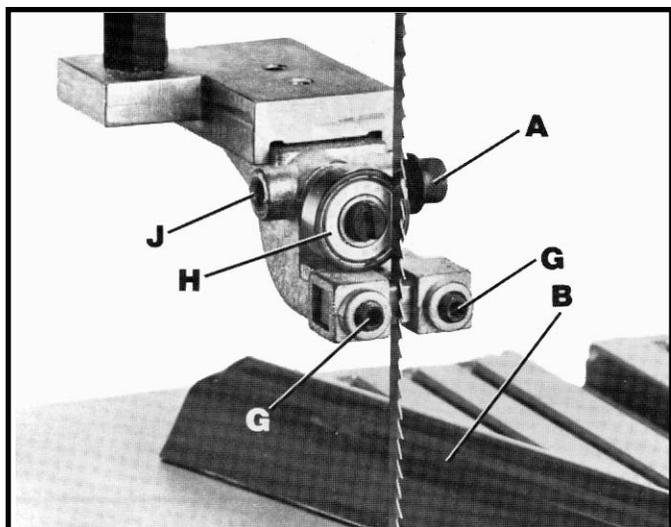

Fig. 21
2. Loosen screw (A) Fig. 21, and remove blade guard (B) from guide assembly.
4. The upper blade guides are held in the guide bracket with set screws (G) Fig. 21. Loosen set screws (G) and adjust blade guides as close as possible to the sides of the saw blade being careful not to pinch the saw blade. Then tighten screws (G).
5. The upper blade support bearing (H) Fig. 21, prevents the blade from being pushed back too far while cutting which could damage the set in the saw teeth. The upper support bearing (H) should be adjusted approximately 1/64" behind the blade by loosening set screw (J), moving the support bearing in or out until it is 1/64" behind the back of the blade and tightening set screw (J).